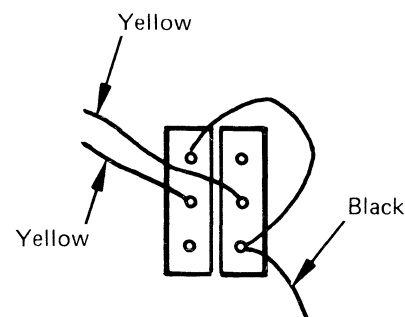

Figure 2.
6. Mark the yellow and black wires so they can be easily replaced (see Figure 2). Unsolder yellow and black wires.
8. Rest the new motor on the transfer valve and resolder wires removed in step 6. See Figure 2.